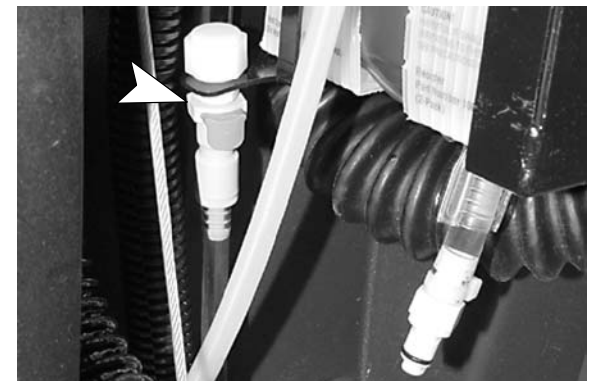

FIG. 12
3. When the supply hose is not in use, make sure to connect it to the storage plug (Figure 12). This will prevent the FaST solution system from drying out and clogging up the supply hose.